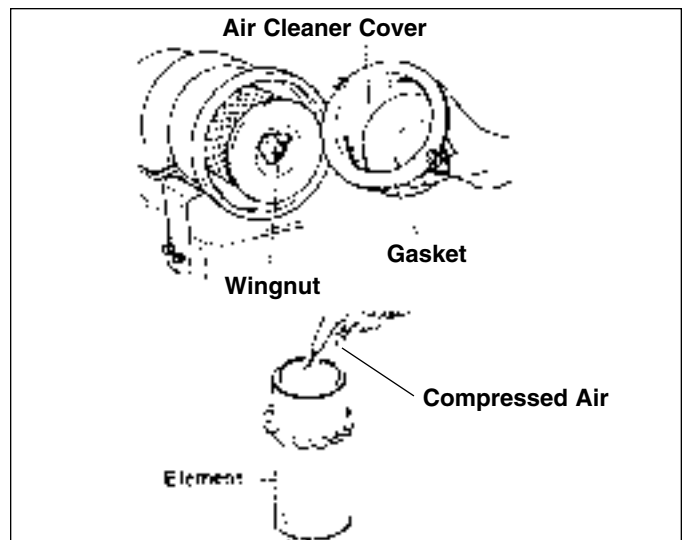

Figure 4-5. Servicing Engine Air Filter
3. Remove the wingnut (Figure 4-5) and remove air cleaner element.
4. Clean air cleaner element with compressed air 30 psi (200 kPa) (Figure 4-5.)